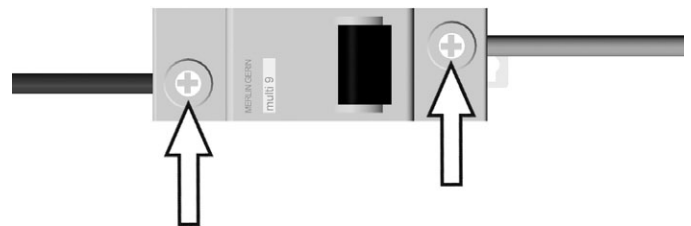

Figure 160. Circuit breaker cable connection.
7. Disconnect the cables from the circuit breaker by undoing the screws. See fig. 160.